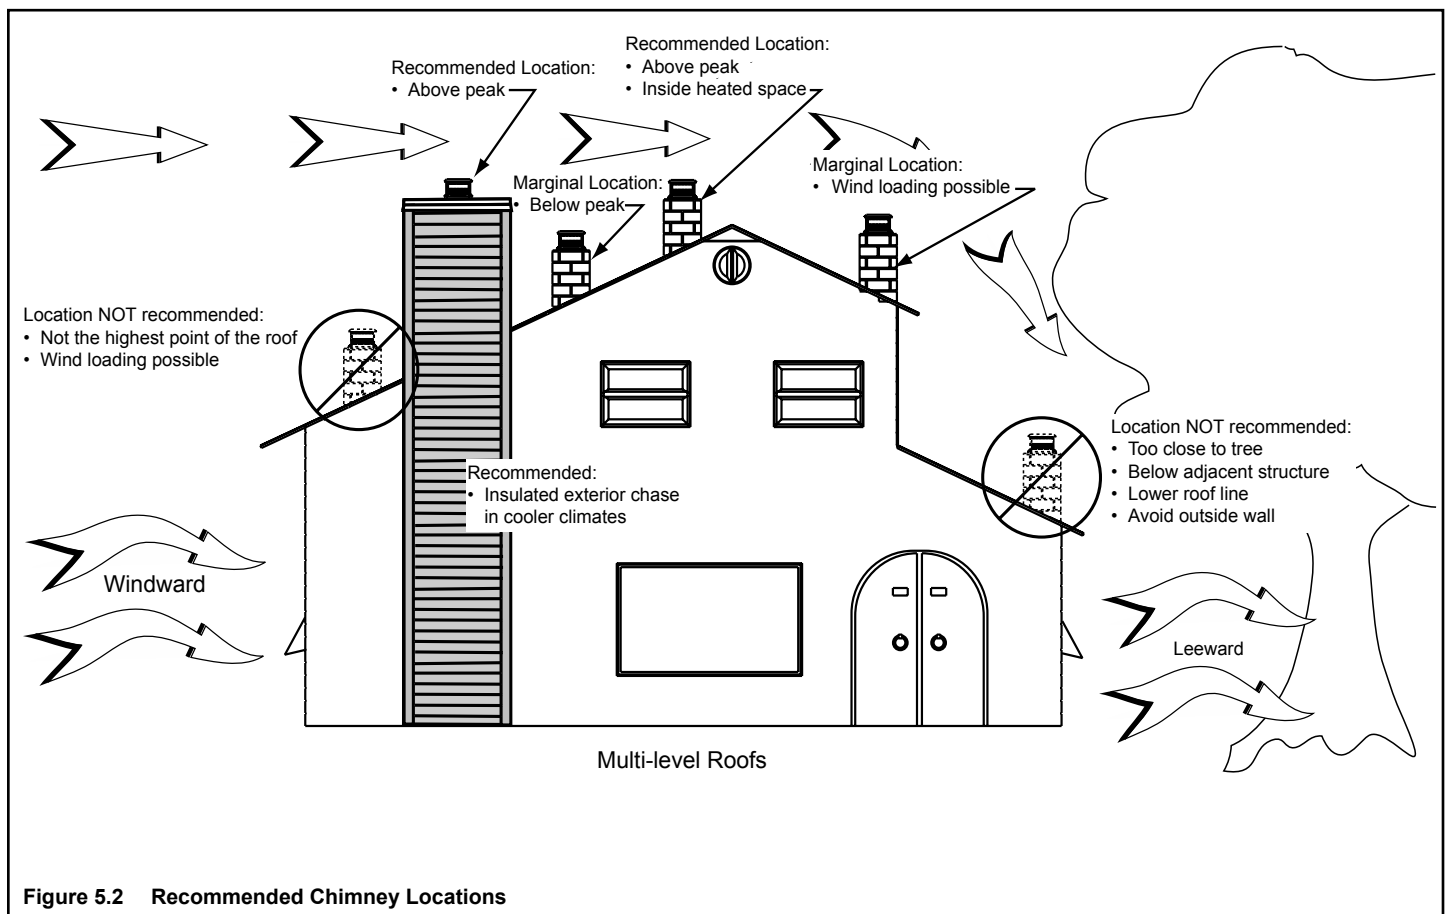

Figure 5.2 Recommended Chimney Locations
- Locate the air inlet in a clear area, preferably into prevailing wind during the heating season. Refer to Figure 5.2.